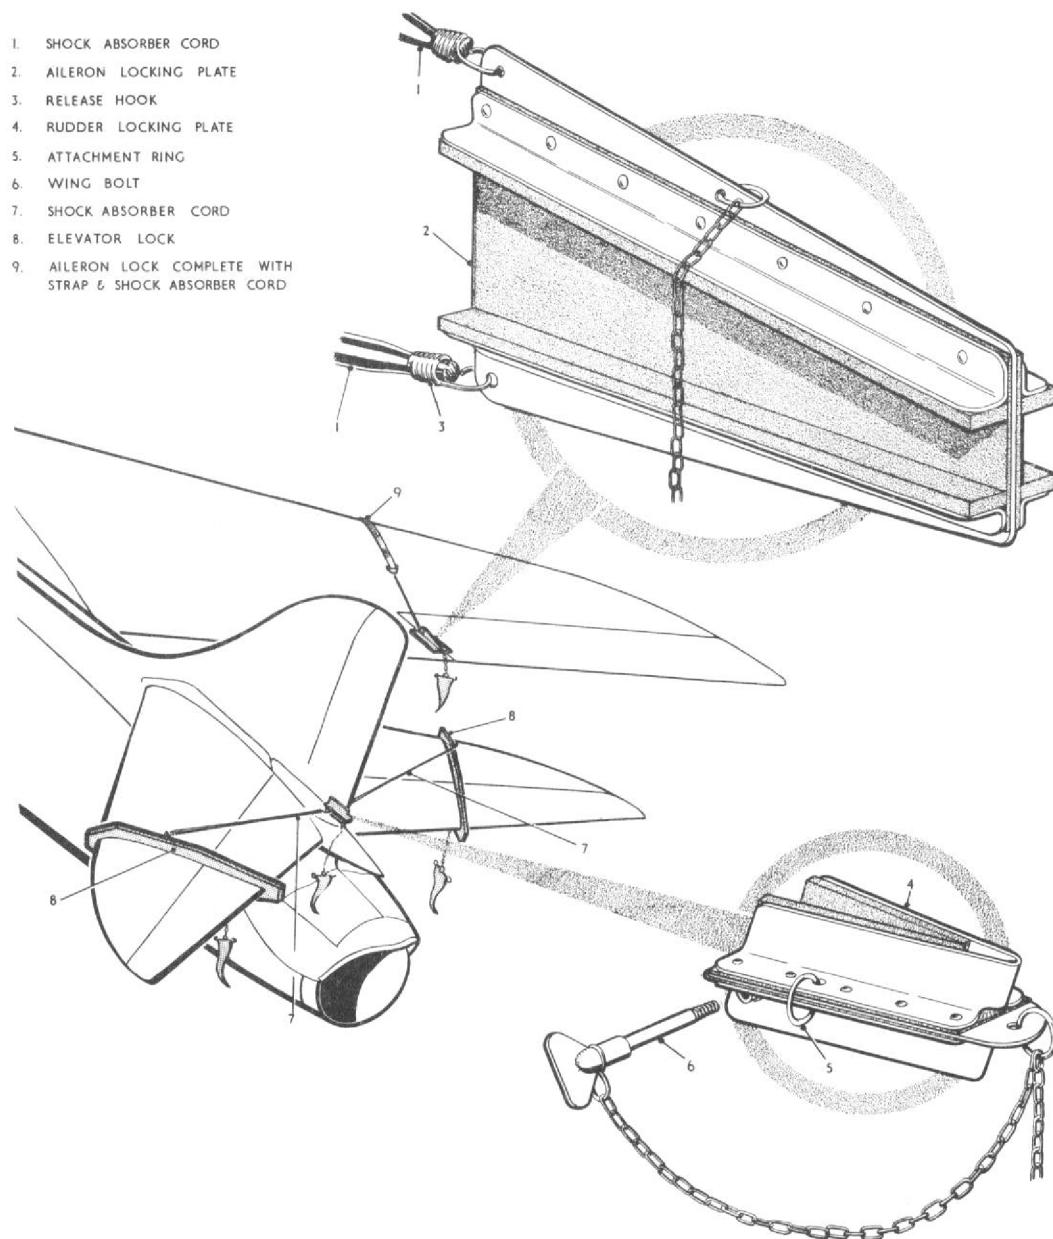

Fig. 4. Control surface locking clamps
**Control surface locking clamps (fig. 4)**